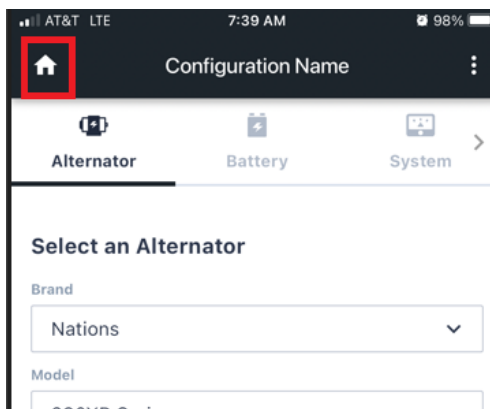

Figure 13A – Select Home button
- Input the settings shown below in Figures 13A, 13B, 13C, 13D, 13E, 13F & 13G.